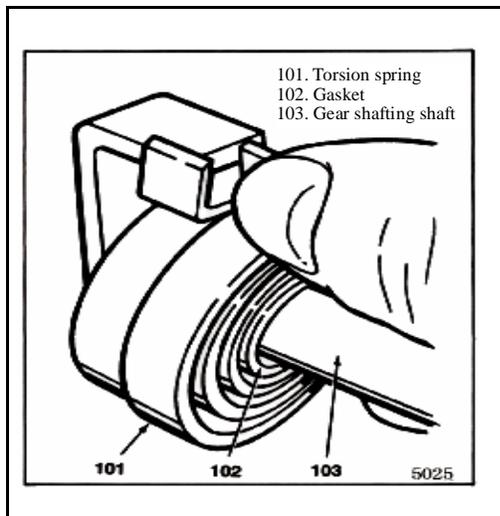

Fig. 5-5
3. Turn the second finger tip of torsion spring on gear shifting (103) to the right end of drive tongue (see Fig. 5-5) .